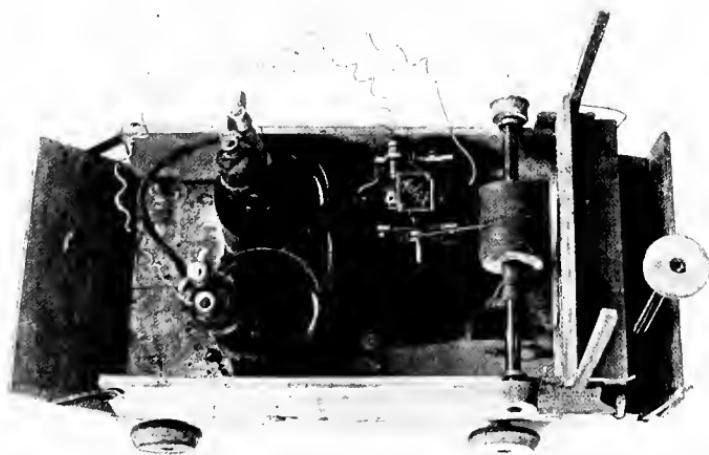

FIG. 287.—TOP VIEW OF ELECTRIC MOTOR TRUCK.
The Upper Shaft shown in Fig. 288 supports a spool pulley like the one on the front axle, and its screw-eye bearings should be screwed into the top edge of the sides of the box (Fig. 287), directly over the front axle. Slip a silk-spool on to each end of this shaft to keep its ends from slipping out of the screw-eyes.
**The Belts.** As you will see by Figs. 287 and 291, the upper large pulley is belted to the motor pulley, and another belt extends from the upper shaft down to the pulley on the front axle. Rubber-bands make the best belts. Cut a hole through the bottom of the cigar-box for the belt extending from the upper shaft to the front axle to pass through. Screw the toy motor to the cigar-box with its pulley directly in line with the upper shaft pulley. Wrap the spool pulleys with bicycle-tape, to keep the rubber-band belts from slipping.
Figure 287 shows how the battery cells are connected. A small switch can be fastened to the side of the truck to shut off and turn on the current, but, instead, you can simply withdraw one pair of elements from its tumbler to shut off the current. When through playing with the truck, however, it is important to remove both pairs of elements and wash them off, because the bi-chromate solution attacks the zinc elements even when the current is not in use. As the bi-chromate solution stains very badly, it is advisable to operate the motor truck only where there is no danger of ruining anything in case some of the solution spills, as in the basement or workshop. If you wish to use a dry-cell instead of the pair of bi-chromate cells, you can place the cell upon the floor and make the wires connecting it to the motor long enough so the truck can run back and forth across a room.